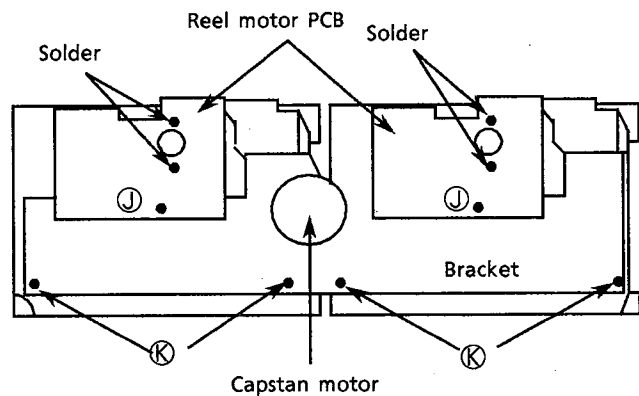

Fig 13
3. Remove the 4 screws Ⓚ fixing the bracket (Fig 13).
3. Remove the screws ⊗ and the bracket (Fig 13).